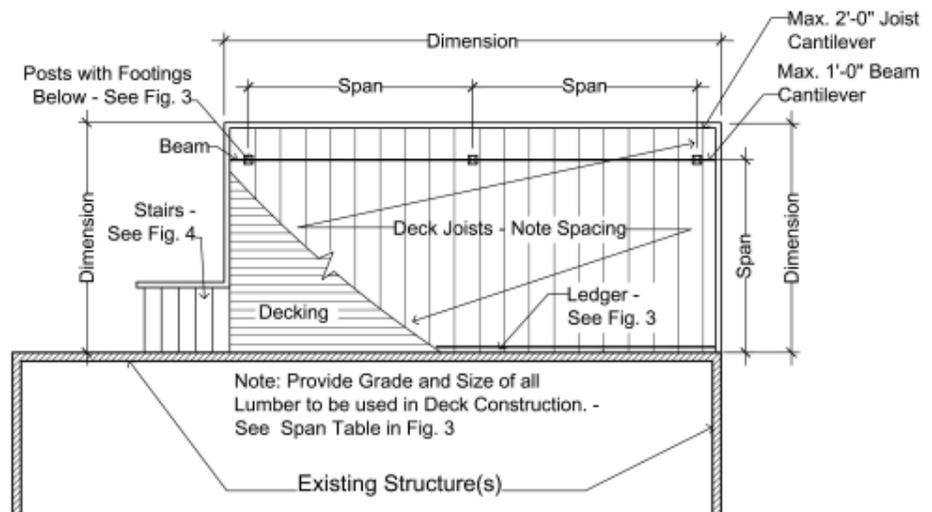

Figure 2: Floor Plan
2. Required **Floor Plan** information (See Figure 2):